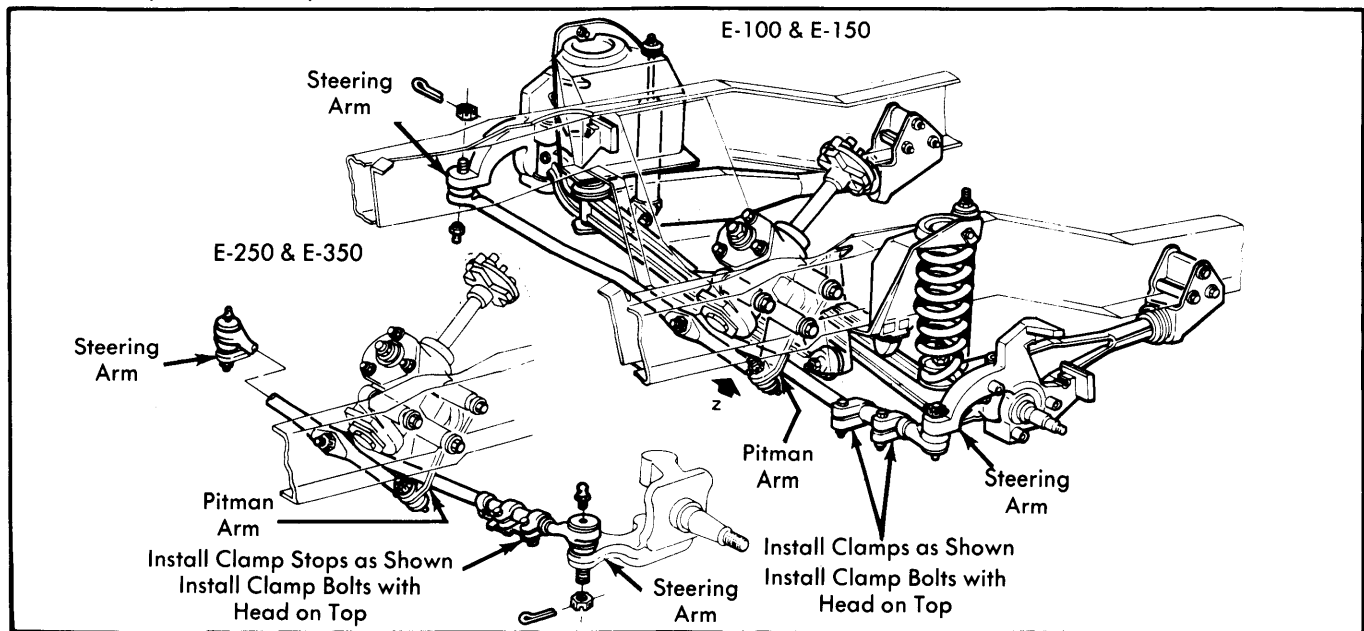

Fig. 2 "E" Models Steering Linkage
4) Lubricate threads of new connecting rods. Screw into adjusting sleeve approximately same distance as old connecting rods. For "E" models, see illustration (see Fig. 2) for correct position of adjusting sleeve clamps.